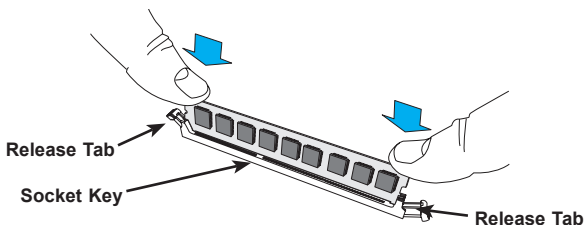

Figure 5-4. Installing DIMM into Slot
2. Insert each DIMM vertically into its slot. Pay attention to the notch along the bottom of the module to prevent inserting the DIMM module incorrectly (see Figure 5-4).